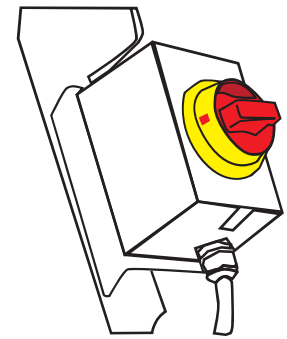

FIGURE 1
5.1 Set the “on-off” handle to the “on” position to ensure the blade is in working condition. **FIGURE 1.**